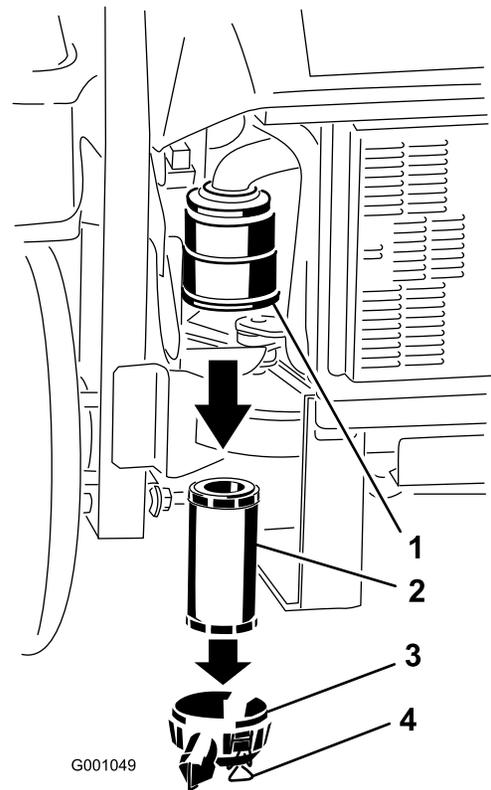

Figure 57
3. Release the latches on the air cleaner and pull the air-cleaner cover off the air-cleaner body (Figure 57).
5. Gently slide the filter out of the air-cleaner body (Figure 57).